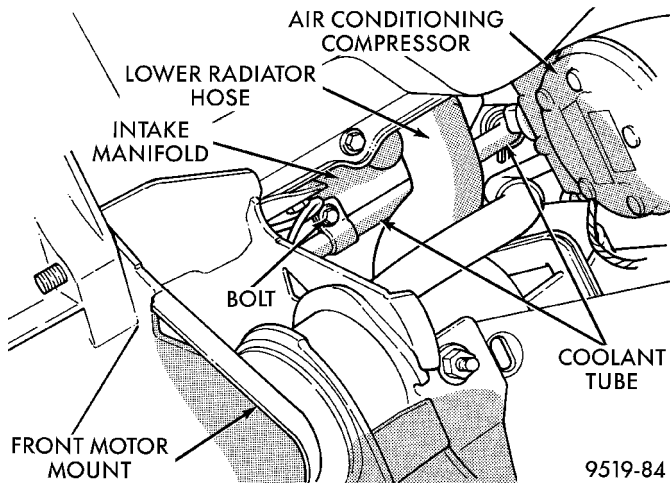

Fig. 23 Coolant Tube To Intake Manifold Attachment
(6) Remove the bolt attaching the coolant tube (Fig. 23) to the bottom of the intake manifold. **The**